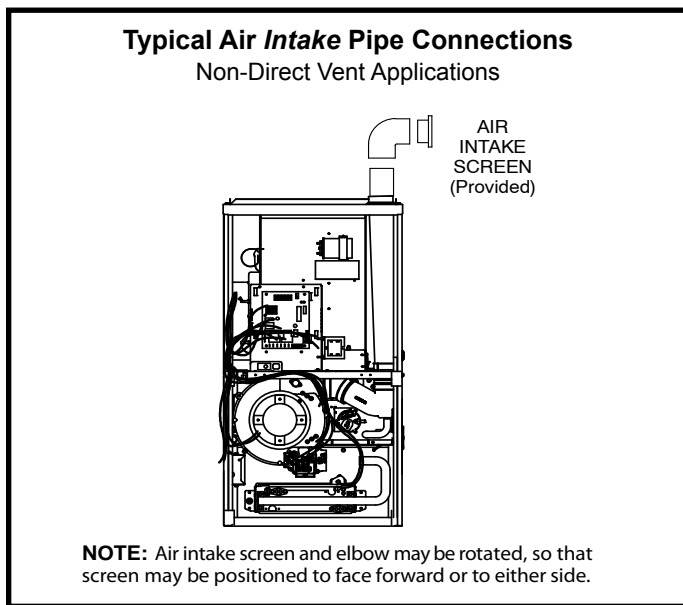

Figure 24
1. Use field-provided materials and the factory-provided air intake screen to route the intake piping as shown in Figure 24. Maintain a minimum clearance of 3" (76 mm) around the air intake opening. The air intake opening (with the protective screen) should always be directed forward, or sideways.